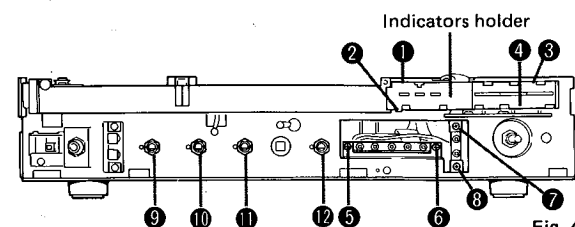

Fig. 4
1. Remove the front panel assembly. (Refer to step ③)
2. Remove the indicators holder hooks ① to ④ in Fig. 4 and then remove the indicators holder.
4. Remove the screws ⑤ and ⑥ Fig. 4 and then remove the tape monitor & function selector switches P.C. board.
2. Remove the screws ⑦ and ⑧ in Fig. 4 and then remove the fm muting & audio mode switches P.C. board.
1. Remove the cabinet bottom. (Refer to step ②)
2. Remove each indicator P.C. boards of tape monitor, fm tuning and fm/am signal. (Refer to step ④)
3. Remove the tape monitor & function selector switches P.C. board. (Refer to step ⑤)
5. Remove the hexagonal nuts ⑨ to ⑫ in Fig. 4.